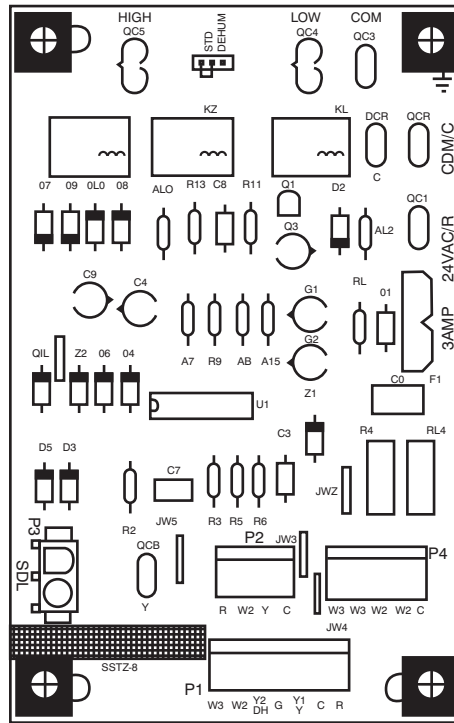

Fig. 15 - Interface Fan Board (IFB)
The cooling speed is marked "LOW" on the interface fan board (IFB) (See. Fig. 15) . The factory-shipped settings are noted in Table 4. There are 4 additional speed tap wires available for use in either electric heating or cooling (For color coding on the indoor fan motor leads, see Table 3). The additional 4 speed tap wires are shipped loose with vinyl caps and are located in the control box, near the interface fan board (IFB) (See Fig. 15).
2. Remove the current speed tap wire from the "LOW" terminal on the interface fan board (IFB) (See Fig. 15) and place vinyl cap over the connector on the wire.
1. Using Fig. 15, move the two pin DEHUM jumper from the “STD” position to the “DEHUM” position.
2. Remove fan speed tap wire from the “LOW” terminal on the interface fan board (IFB) (See Fig. 15).
When the DEHUM feature is not used, the continuous fan speed will be the same as cooling fan speed. When the DEHUM feature is used, the continuous fan will operate on IFB “LOW” speed when the DH control lead is not energized, or IFB “HIGH” speed when the DH lead is energized (see Fig. 15).